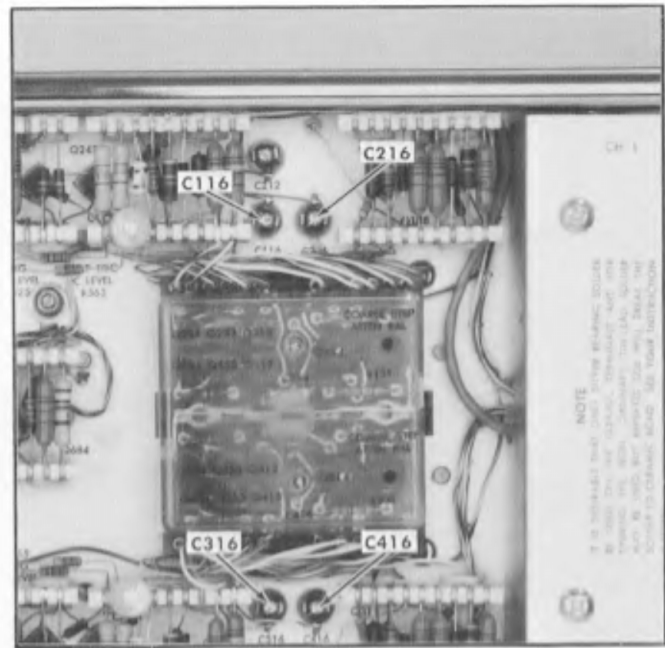

Fig. 6-11. Location of channels 1 and 2 cross neutralizing capacitors.
- f. ADJUST—C116, see Fig. 6-11, for minimum waveform change as part d of this step is being accomplished.
- k. ADJUST—C216, see Fig. 6-11, for minimum waveform change as part i of this step is being accomplished.
- f. ADJUST—C316, see Fig. 6-11, for minimum waveform change as during part d of this step is being accomplished.
- k. ADJUST—C416, see Fig. 6-11, for minimum waveform change during completion of part j.